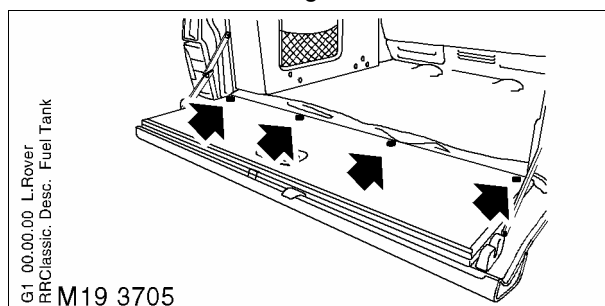

Fig. 2
- 6 Remove four fasteners securing loadspace carpet to lower tailgate. Fig. 2.